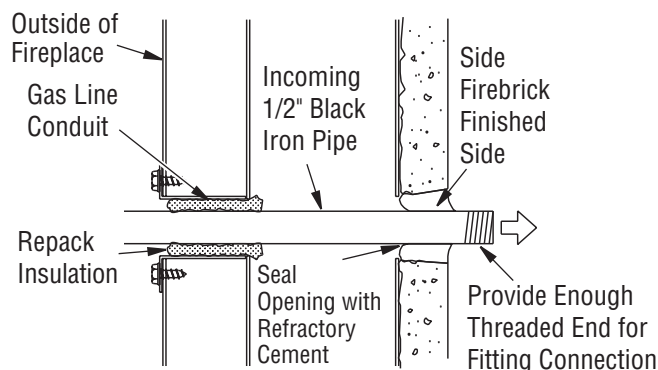

Figure 22 - Gas Line Installation
3. Run a 1/2" black iron gas line into fireplace through rear at gas line conduit sleeve (if using a raised platform, add height). Provide sufficient gas line into fireplace chamber for fitting connection (see Figure 22).